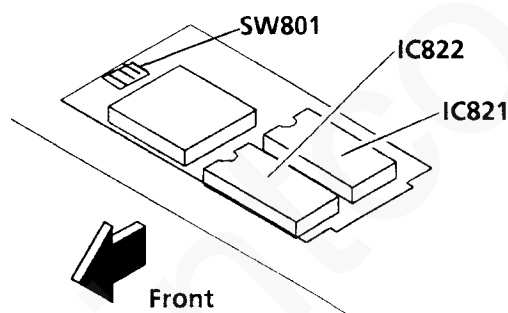

Figure 2. EPROMs and SW801
7. Remove EPROMs IC821 and IC822 (figure 2).
1. Set the switches on SW801 (figure 2) to equal the switches on the removed PWB.
5. Remove EPROMs IC821 and IC822 (Figure 2).